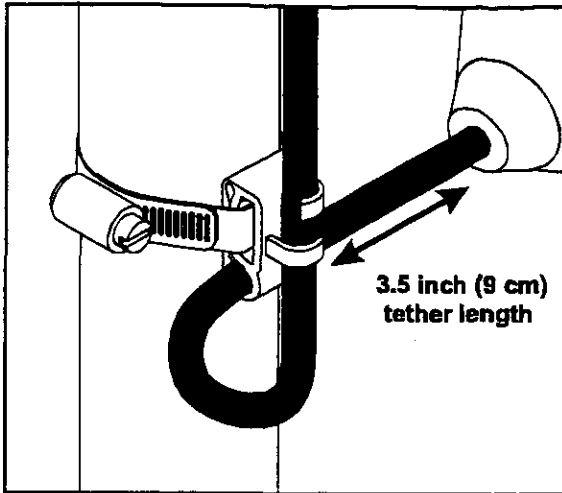

FIGURE 5 - Mounting clamp detail.
4. For mounting clamp installation: place the cord into the clamp as shown in Figure 5. Locate the clamp at the desired activation level and secure the clamp to the discharge pipe as shown in Figure 5.